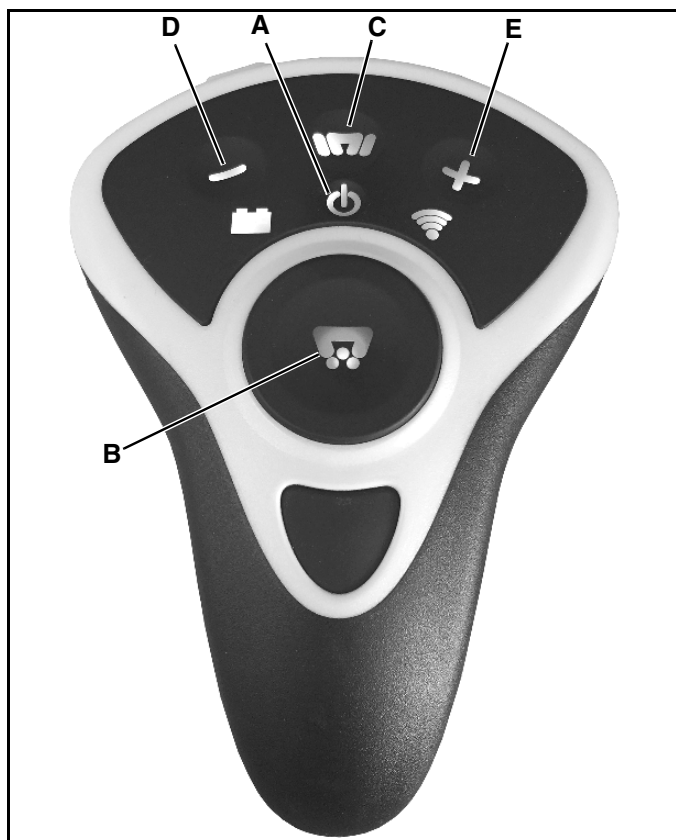

Figure 1-19
1. The center button just above the large middle button (Figure 1-19, A) is the power button. Press and hold the power button for three seconds to turn on the control. To turn the control off, hold the power button until the backlights go out.
2. The large button in the middle of the control (Figure 1-19, B) is the on/off button for the spinner motor. To start or stop the spinner press and release the button. When the motor is running, the light behind the button (salt light) will turn on. The light will blink slowly in speed step 1.
3. The button on the top row, center (Figure 1-19, C) is the vibrator button. Holding the button down will turn on the vibrator (if equipped). Releasing the button will turn it off.
4. The button on the left of the top row (Figure 1-19, D) is the speed reduction button. Pushing and releasing the button will drop the spinner one speed step. There are a total of four speed steps available.
5. The button on the right of the top row (Figure 1-19, E) is the speed increase button. Pushing and releasing the button will raise the spinner one speed step. There are a total of four speed steps available.